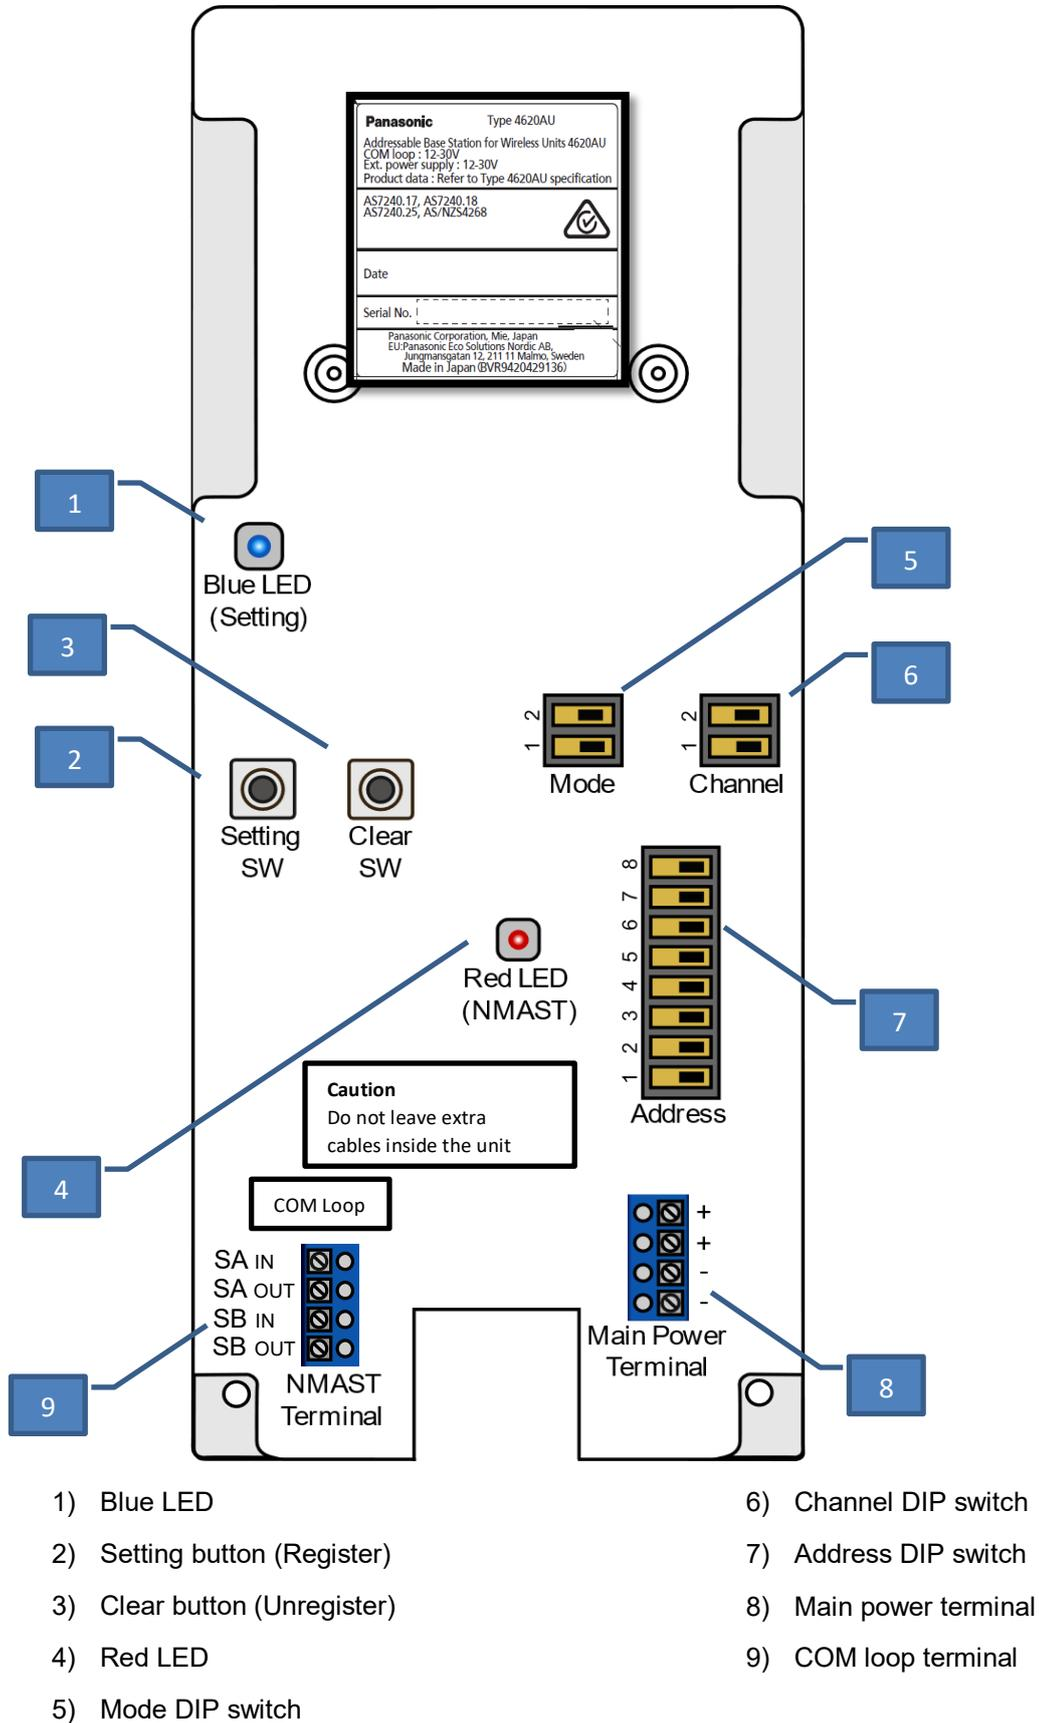

Figure 10 Wireless Base Station
Connect Base station 4620 to 24Vdc. See Figure 10, Main power terminal (8)
Set the Transmission channel on Base station. See Figure 10, Channel DIP (6)
Set the Mode on Base station to 'Setting'. See Figure 10, Mode DIP (5)
Set the Address on Base station. See Figure 10, Address DIP (7)
Press and hold the Setting button in the Base Station. The blue LED turns on. See Figure 10, Blue LED (1) and Setting button (2)
While holding the 'Setting button' in the Base Station, press the 'Register button' on the Wireless Detector. See Figure 10, Setting button (2) and Figure 10, Register button (3)
**Step 19:** Return the Mode DIP to Normal mode on the Base Station, see Figure 10 and on the detectors, see Figure 14.